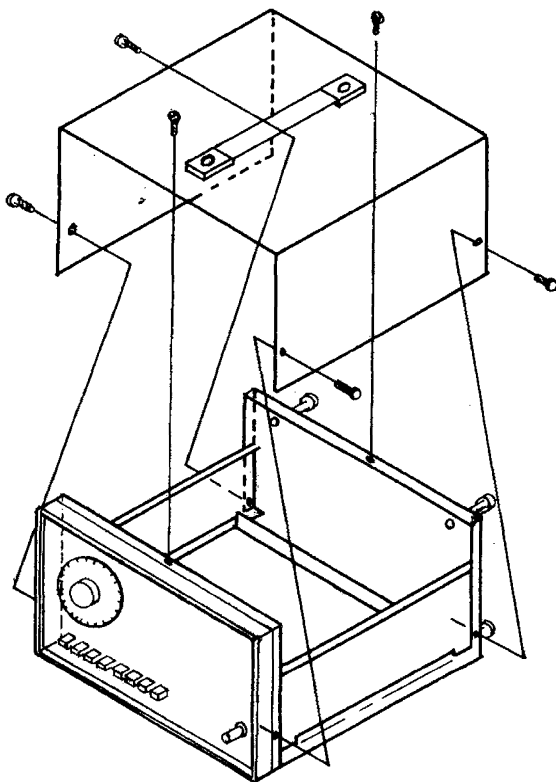

Figure 6-1. Disassembly
1. Remove the six screws shown in Fig. 6-1.